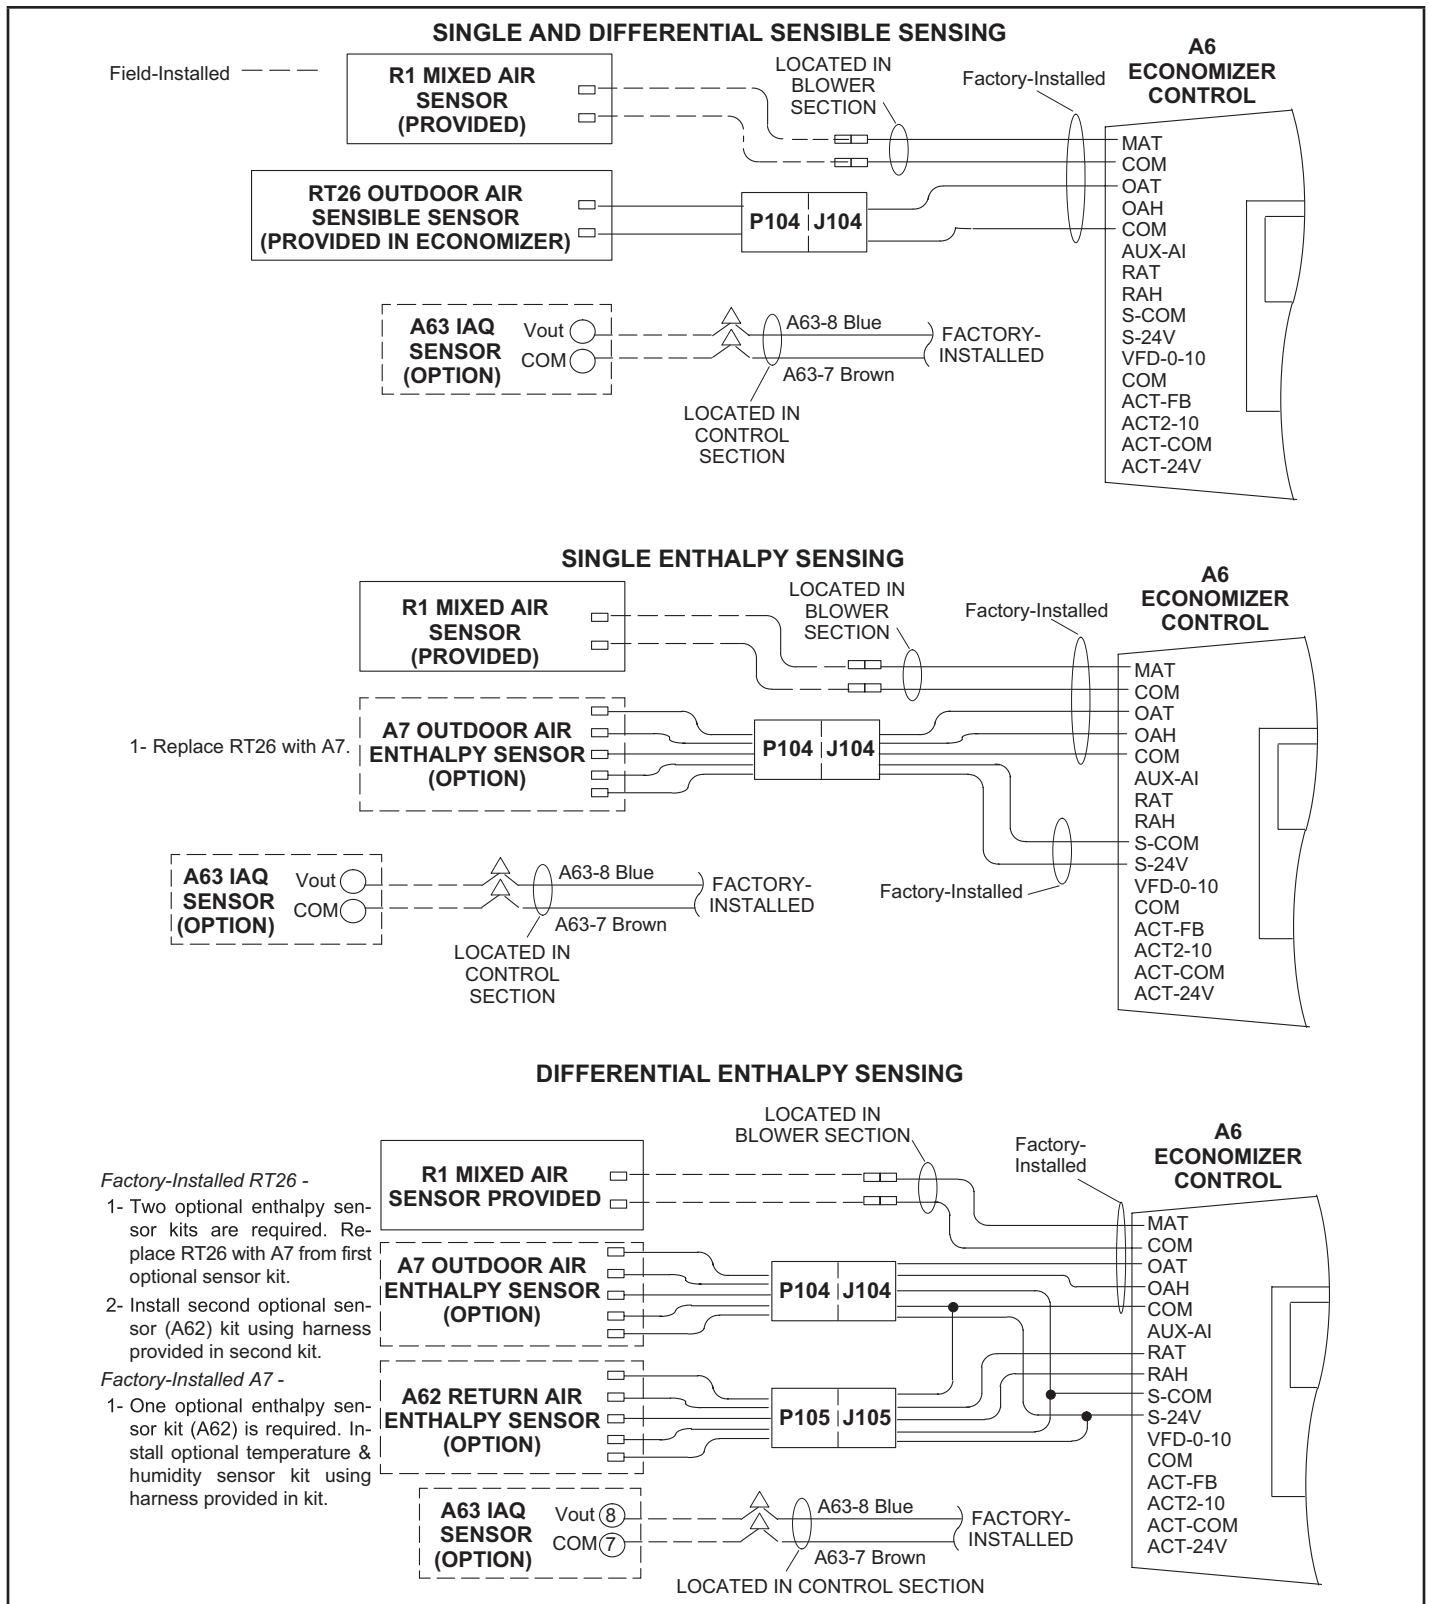

FIGURE 27
- 1 - Locate two wires labeled R1 in wire bundle in top of blower section. Connect spade terminals on R1 harness to the wires from the bundle. Connect the R1 harness 2-pin connector to the R1 2-pin connector. See figure 27. Make sure to secure wires away from moving parts.
- 2 - Connect blue A63-8 wire to CO2 sensor Vout lead. Connect brown A63-7 wire to CO2 sensor COM lead. Secure with wire nut. See figure 27.